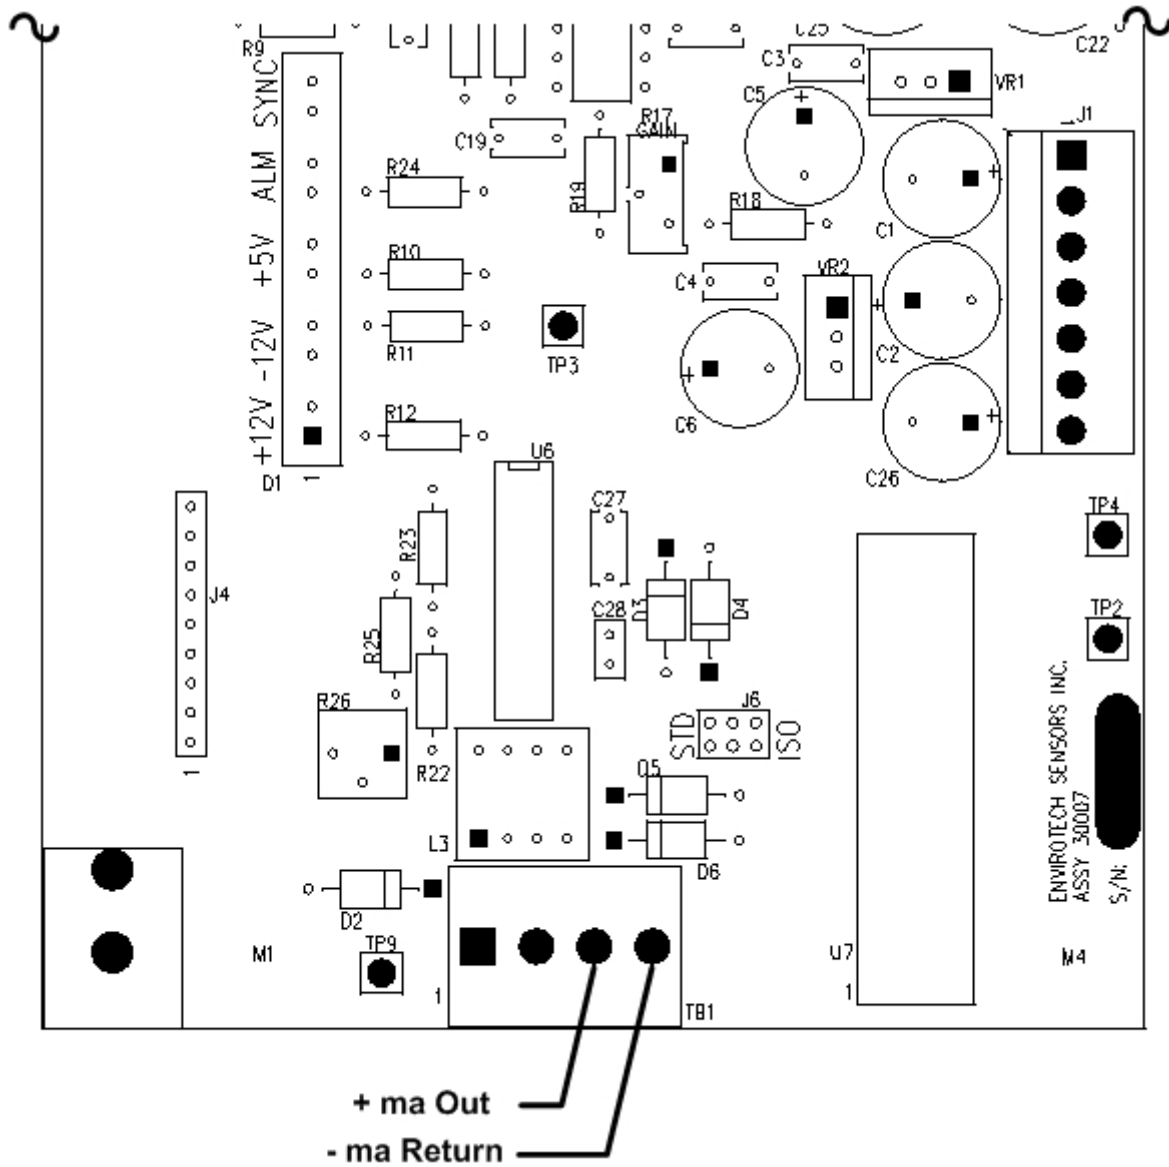

Figure 2.3.2-1 4-20 ma Current Loop Output Signal Connections
3. Strip ~6 mm (1/4") of insulation from each of the two conductors and connect them to TB1 using the information in Table 2.3.2-1 and Figure 2.3.2-1.